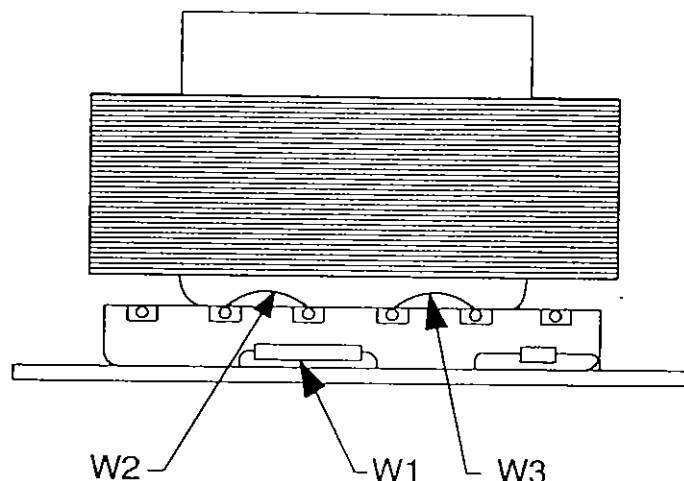

Figure 4-2 Side View of Transformer
2. Refer to Figure 4-2. Remove jumper W1 on the printed circuit board.